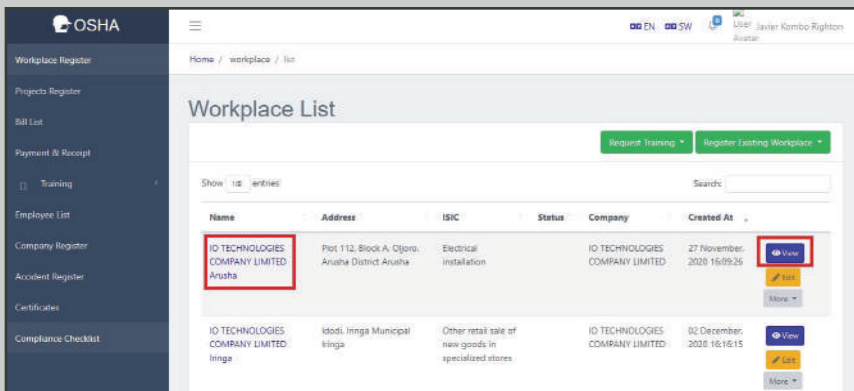

Figure 32: Viewing workplace details page
- i) Click on the view button or workplace name on the displayed workplace list as illustrated on Figure 32.